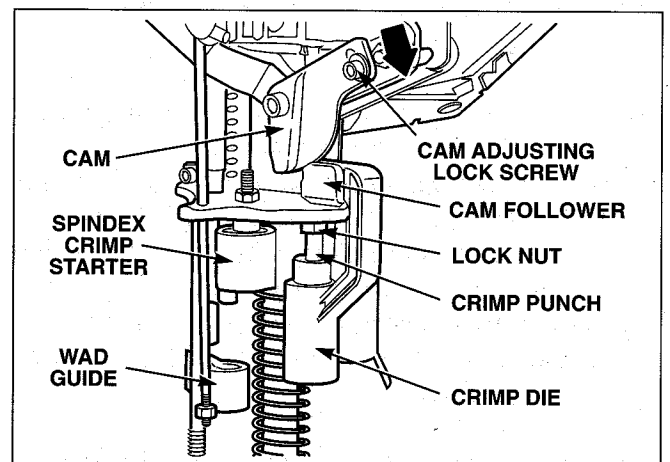

Figure 60
1. Using a $\frac{1}{2}$ inch open-end wrench, loosen lock nut, Figure 60.
1. Loosen cam adjusting lock screw, Figure 60.